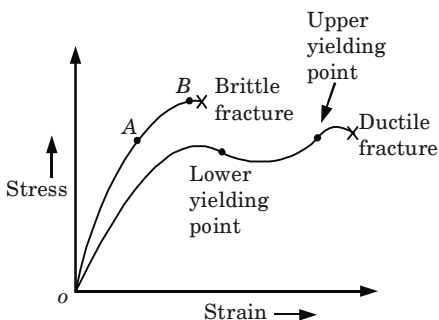

Fig. 6.
- (Fig. 6) shows the stress-strain diagram for the ductile and brittle fracture of material.